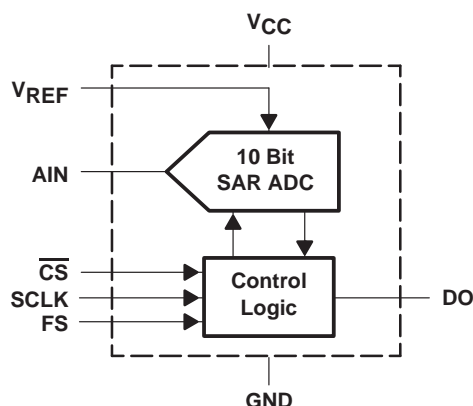

Figure 2. TLV1572 Functional Block Diagram
The TLV1572 is a 10-bit successive approximation analog-to-digital converter (ADC), as shown in Figure 2. The TLV1572 has one analog input (AIN), chip-select ( $\overline{\text{CS}}$ ), serial clock (SCLK), and serial data output (DO).
The following statements describe the generation and application of the configuration and control signals (see Figure 1 and Figure 2):